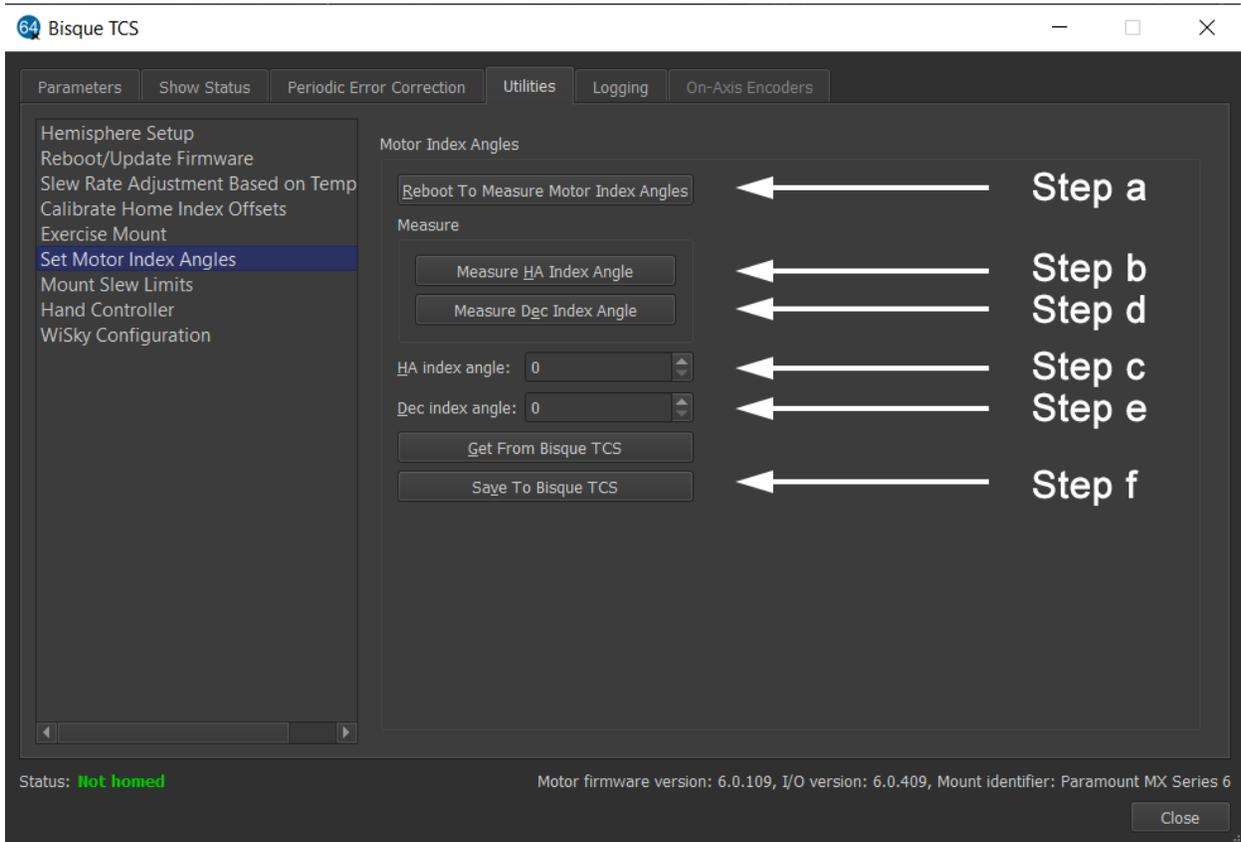

Figure 111: Follow Steps a-f to measure and save the motor index angles for both axes.
8. Click the **Utilities** tab and highlight the **Set Motor Index Angles** option on the left side of the window. The steps below are highlighted in Figure 111.